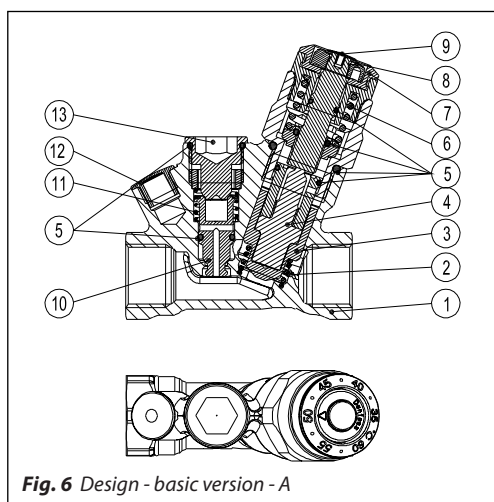
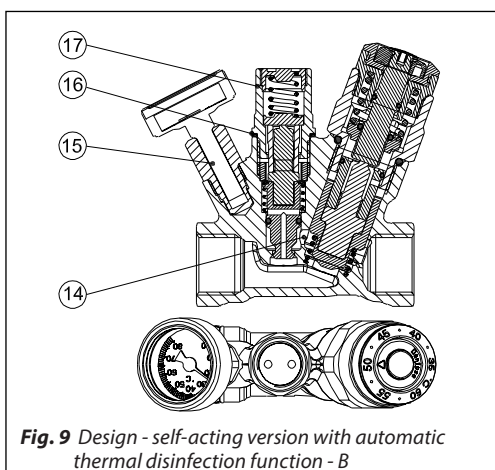
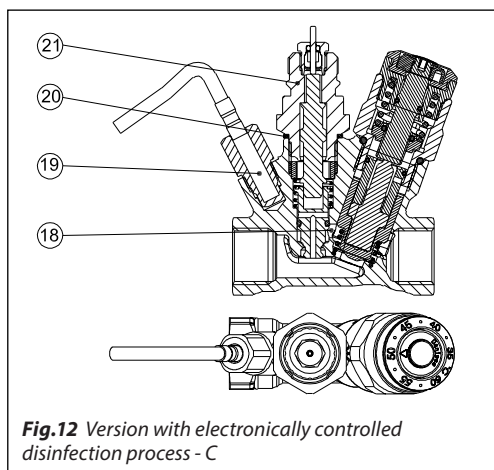

Fig. 6 Design - basic version - A
Fig. 9 Design - self-acting version with automatic thermal disinfection function - B
Fig.12 Version with electronically controlled disinfection process - C
The MTCV - is a thermostatic self-acting, proportional valve. A thermo-element (fig. 6 elem. 4) is placed in the valve cone (fig. 6 elem. 3) to react to temperature changes.
A safety spring (fig. 6 elem. 6) protects the thermo-element from being damaged when the water temperature exceeds the value on the set point.
After removing the plug from the disinfection plug (fig. 6 elem. 13)-(this can be done during working conditions, under pressure) the thermostatic disinfection module can be mounted (fig. 9 elem. 17).
- 1-13 As described in fig. 6
A temperature sensor PT 1000 has to be mounted in the thermometer head (fig. 12 elem. 19). Thermo-actuator and sensor are connected to the electronic regulator CCR2+ which allows an efficient and effective disinfection process in each circulation riser. The main regulation module works within the temperature range 35-60 °C. When the disinfection process/thermal-water treatment starts CCR2+ controls the flow through MTCV via thermo-actuators TWA. Benefits of an electronic regulated disinfection process with CCR2+ are:
After removing the disinfection plug (fig. 6 elem. 13) the adapter can be mounted (fig. 12 elem. 21) and the thermo actuator TWA can be mounted.